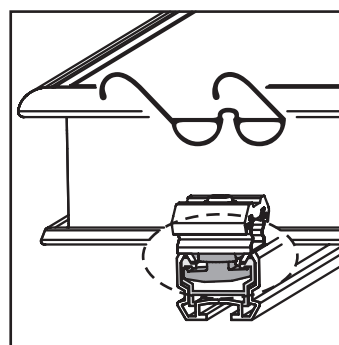

Fig. 3-21 Check the position of the bottom clamping profile .
2. Check the position of the bottom clamping profile (Fig 3-21).